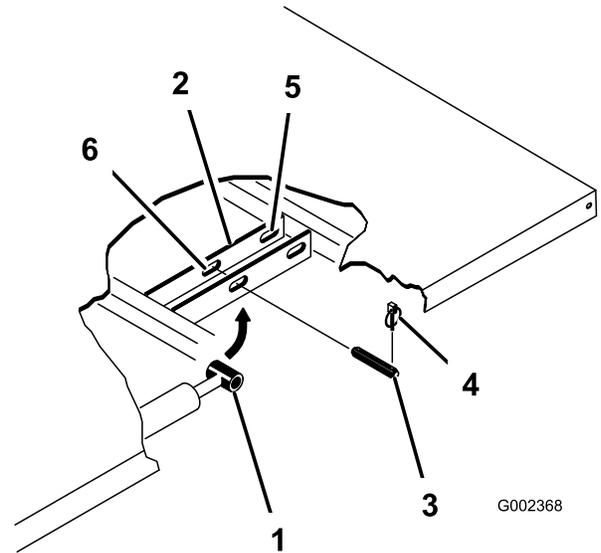

Figure 34
2. Remove the lynch pins from the outer ends of the cylinder rod clevis pins (Figure 34).
3. Remove the clevis pins securing the cylinder rod ends to the bed mounting plates by pushing the pins towards the inside (Figure 34).
4. Remove the lynch pins and clevis pins securing the pivot brackets to the frame channels (Figure 34).